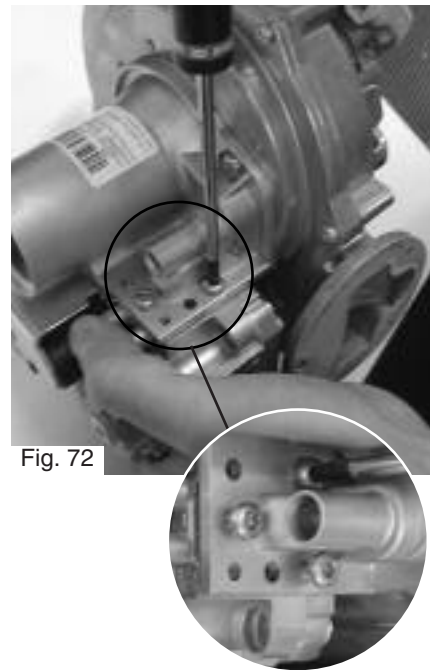

Fig. 72
4. Unscrew the three screws holding the gas valve on the venturi (Fig. 72);